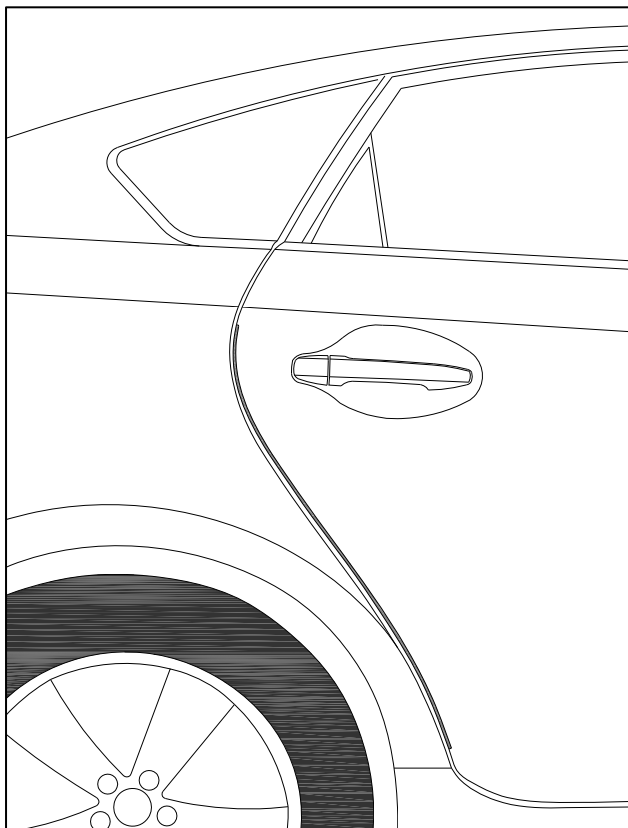

Fig. 1-7
- (i) Carefully close rear door and ensure DEG has sufficient clearance from any adjoining body panel. Carefully remove template from door and retain for use on driver side. (Fig. 1-7)